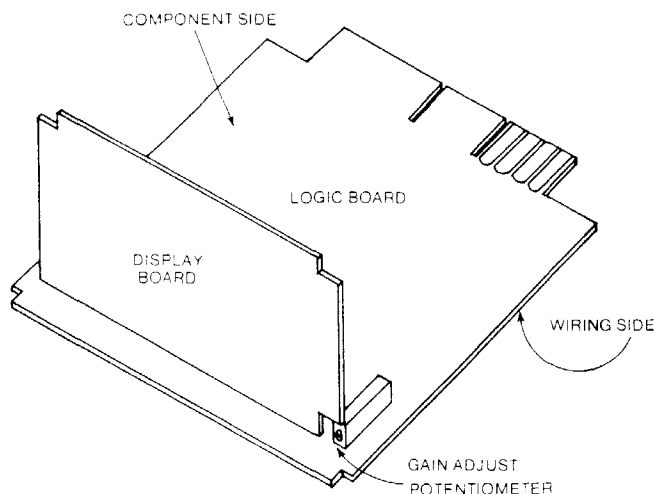

Figure 4. Location of Gain Adjust Potentiometer
- For accurate readings adjust the Gain Adjust Potentiometer shown in Figure 4.